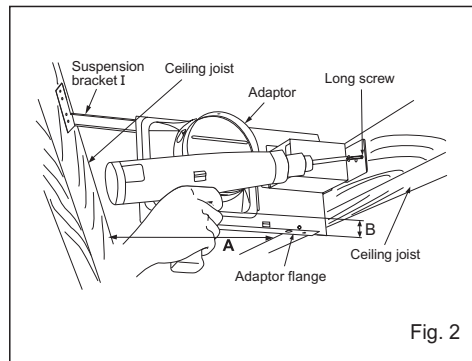

Fig. 2
2. Remove adaptor from body and secure adaptor to ceiling joists using long screws. (Fig. 2) Keep the distance B (21.6mm, 7/8 inch) for the thickness of ceiling board.